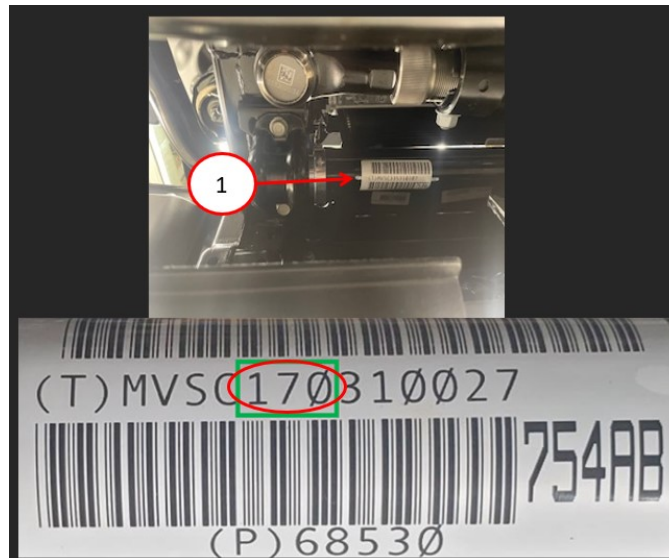

Fig. 1
2. Inspect the Julian date on the ASBS Fig. 1.